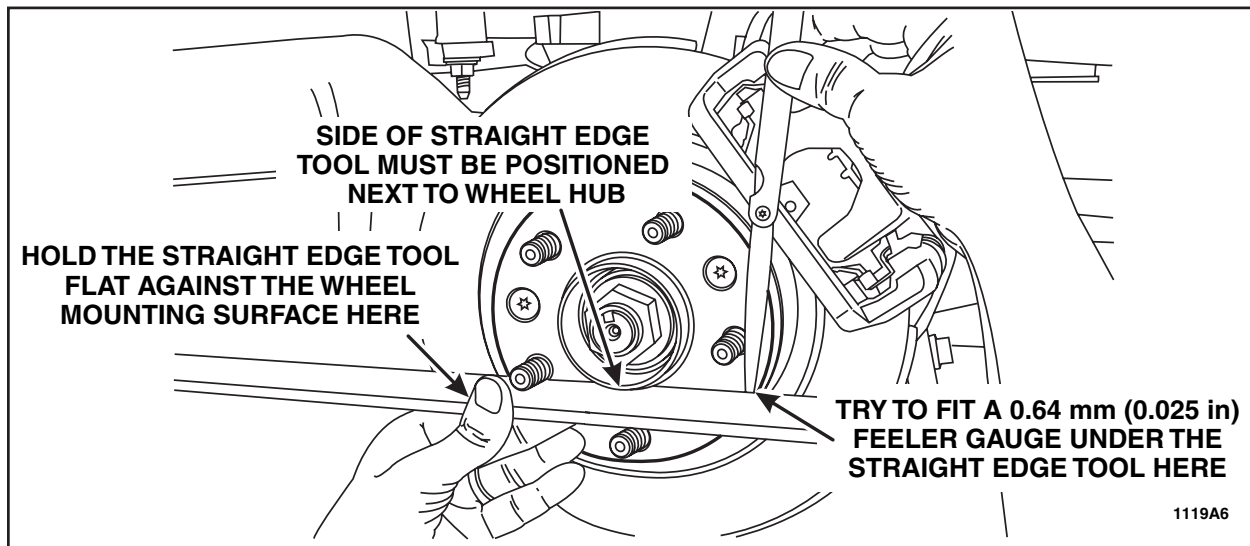

FIGURE 1
4. Position a straight edge tool (Central Tools CEN6429 or equivalent) flat against the rear brake disc wheel mounting surface, with the side of the straight edge tool next to (or touching) the wheel hub. See Figures 1 and 2.
5. While holding the straight edge tool flat against the rear brake disc wheel mounting surface, use a feeler gauge to check for flatness. See Figures 1 and 2.